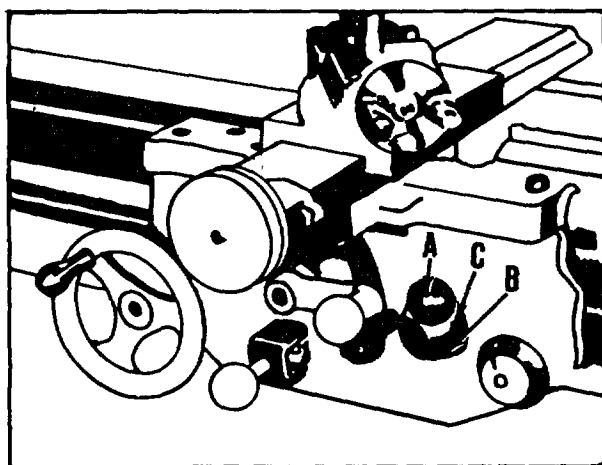

Fig. 29.
1. Close the half-nuts by turning lever (A) Fig. 29, clockwise as far as it will go.
2. Loosen two set screws (B) Fig. 29, allowing hub (C) to turn freely on shaft CAUTION: To retain the stop parts of the hub in their proper place, always 'keep the hub (C) against the apron.
3. With the half-nuts closed, move lever (A) Fig. 29, counterclockwise a few degrees and retighten set screws (B).